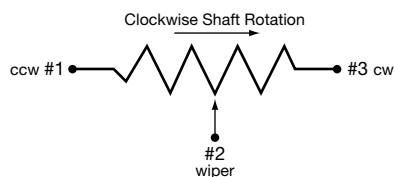

Figure 1
1. Terminal Arrangement. When using trimmer potentiometers in circuit designs, be aware of the terminal arrangement, and in which rotational direction the shaft or rotor is turned to increase or decrease the resistance. As shown in *Figure 1*, turning the shaft or rotor clockwise will increase the resistance between the #1 and #2 terminals.